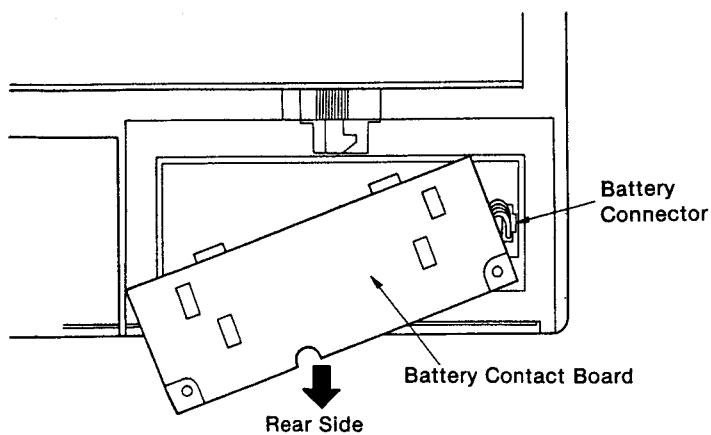

Figure 3
- (4) Gently lift up the battery contact board and disconnect the battery connector as shown in Figure 3.